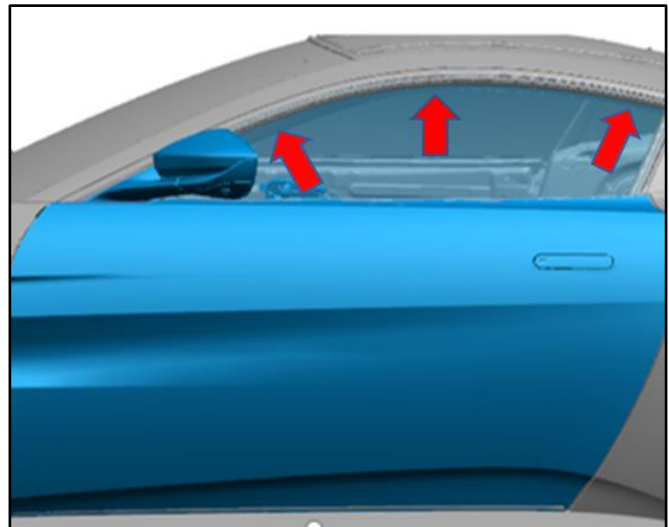

Figure 9
19. Do a check that there is sufficient clearance between the door glass and the cantrail finisher. (Refer to Figure 9)